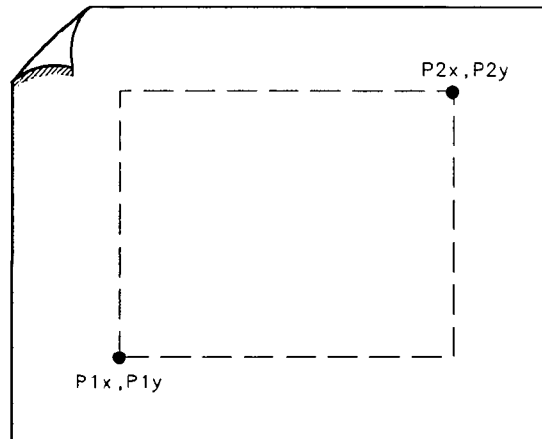

Figure 4-9. P1 and P2 Coordinates
3. Know how to select the scaling points on your plot. The scaling points (referred to as the P1 and P2 plotter coordinates) define the lower-left and upper-right corners of the plot. See Figure 4-9. These coordinates define the size of the plot. Table 4-3 shows the scaling points for several Hewlett-Packard plotters.